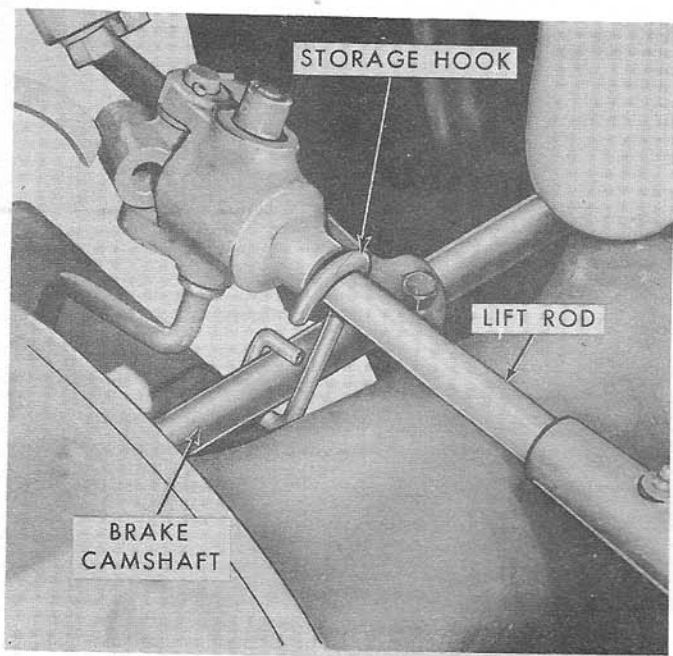

Figure 18
- a. Disconnect the lift rod from the tractor right lift arm and connect it to the brake camshaft as shown in Figure 18 with the storage hook provided. Close the hook on the brake camshaft to prevent losing it.